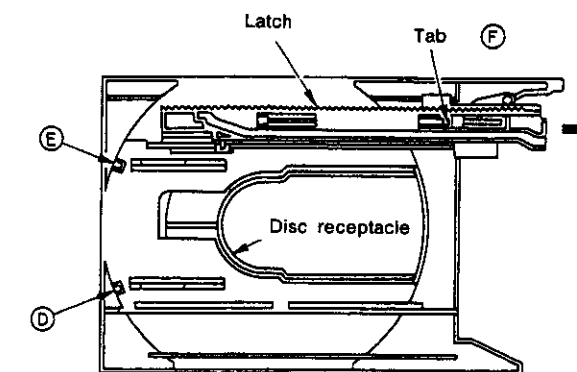

Fig. 4
(3) Replacement of the disc holder (Fig. 4)
With the tray removed, remove tabs D and E of the disc receptacle of Fig. 4, then lift up and off.
(4) Replacement of the latches (Fig. 4)
Set the latches into the condition of Fig. 4, lift the latch tab (F) up about 1 mm with a flat-bladed screwdriver and remove the rack in the direction of the arrow.